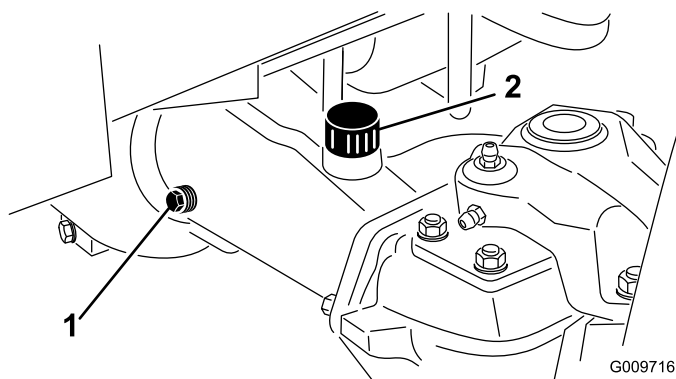

Figure 44
2. Remove a check plug from one end of the axle (Figure 44) and make sure that the lubricant is up to the bottom of the hole.
Note: If the level is low, remove the fill plug (Figure 44) and add enough lubricant to bring the level up to the bottom of the check plug holes.